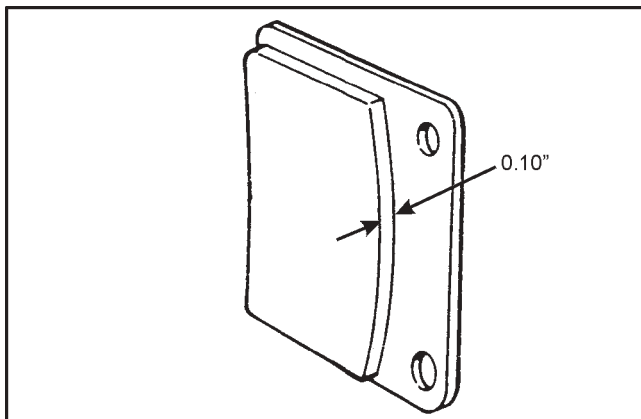

Figure 7-26. Brake pad wear, hydraulic brakes
- the brake lining material molded to each metal backing plate is worn to 0.10" thickness. (Figure 7-26)